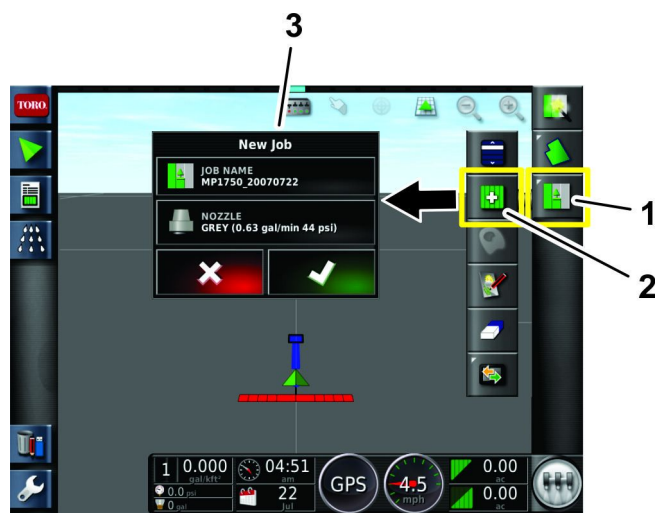

Figure 131
5. Press the job-menu icon in the upper right of the screen (Figure 131).
6. Input a new name for the job or leave the default time stamp (Figure 131).